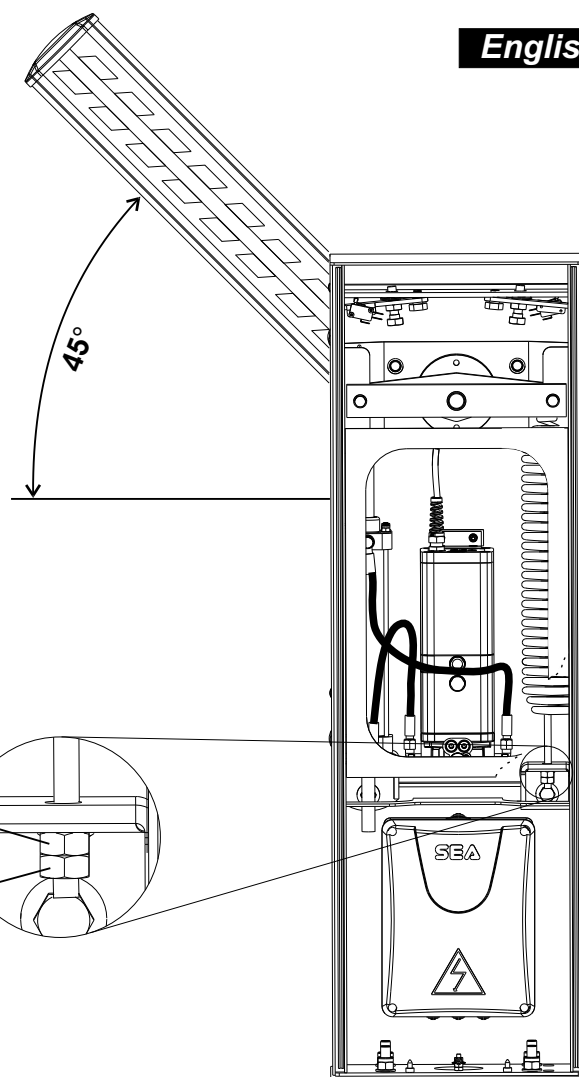

Fig. 13
- Release the beam with manual release, so that it is free to be opened and closed manually (Fig. 13).
- Loosen or tighten the spring stretching nut until the spring counterbalances the weight of the 45° beam (Fig. 13). The best balancing position is obtained when the beam reaches the position shown in Fig. 13.